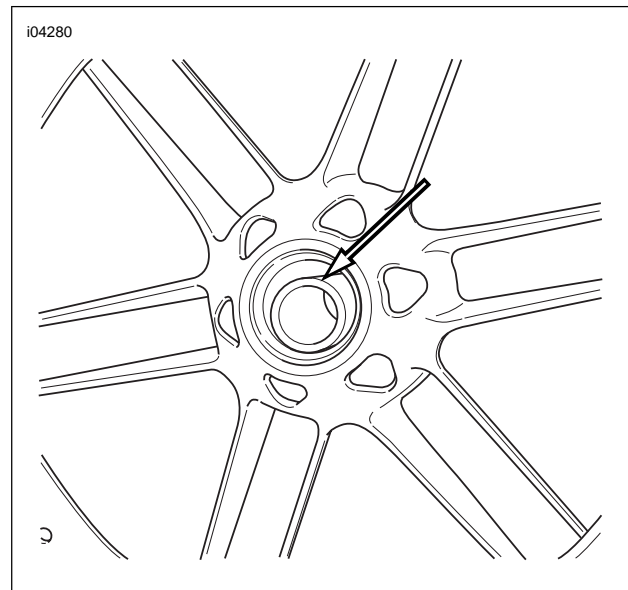

Figure 2-11. Remove the Spacer
12. See Figure 2-11. Remove the spacer.